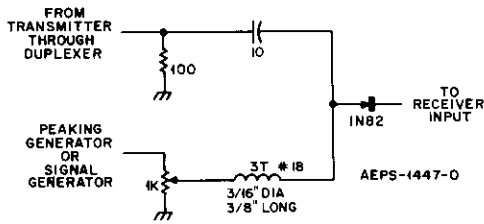

Figure 6. Mixer Circuit
- Mixer circuit constructed as shown in Figure 6.
Alignment of the duplexers can be simplified by using the mixer circuit shown in Figure 6. The mixer receives inputs from the transmitter and a low frequency source. The outputs from the mixer are frequencies above and below the transmitter frequency at separations equal to the output of the low frequency generator.